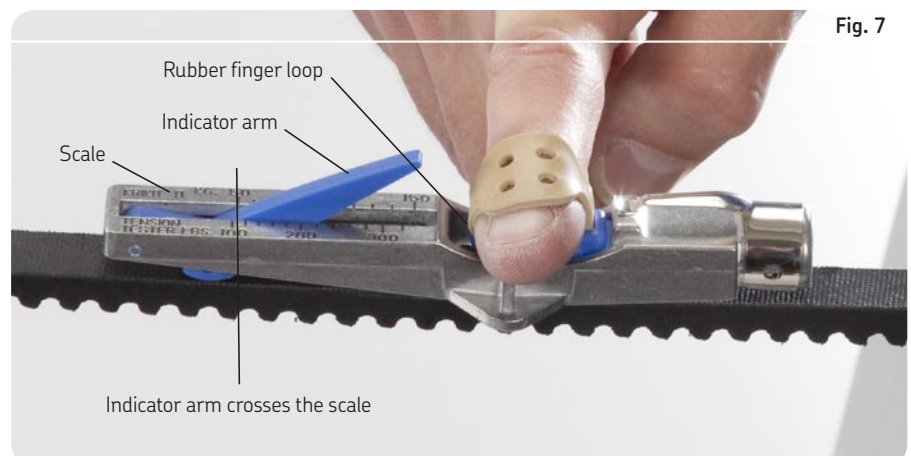

Fig. 7
- 5 Remove tester and read the belt tension by observing the point where the top surface of the indicator arm crosses the numbered scale on the tester body (→ **fig. 7**).